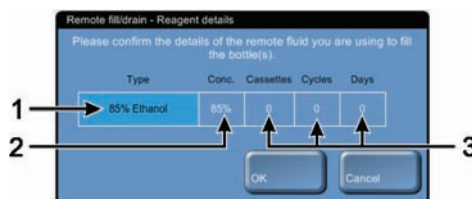

Figure 114: Reagent details dialog box with reagent type (1), concentration (2) and history cells (3)
- The "Remote fill/drain - Reagent details" dialog box will now appear (see Figure 114).
- If you wish to change the reagent type, select the "Type" cell from the dialog box then select a reagent type from the list (see Figure 114). The new reagent type must be compatible with the retort and bottle residue.
- If you wish to change the initial reagent concentration, select the "Conc." cell then enter the required value using the keypad (see Figure 114).
- If you wish to change the history details, select the appropriate cell then enter the required value using the keypad (see Figure 114).